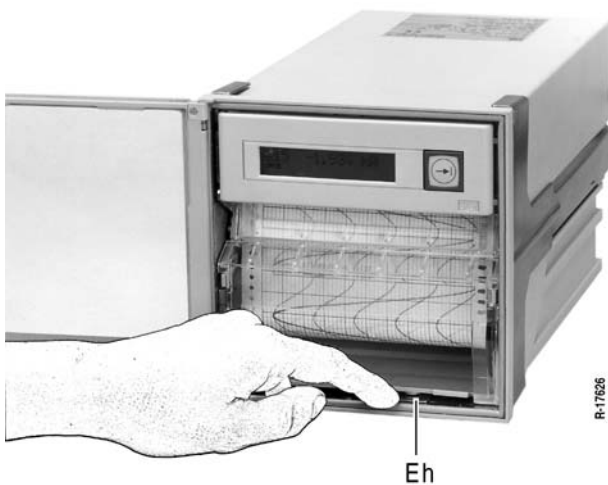
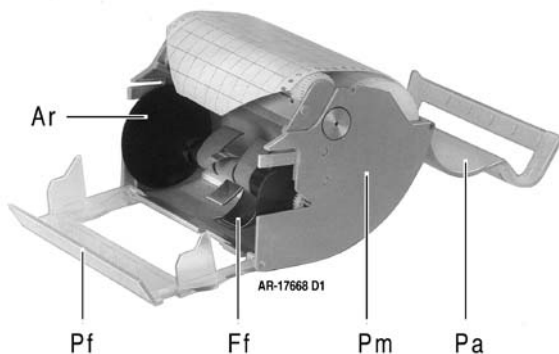
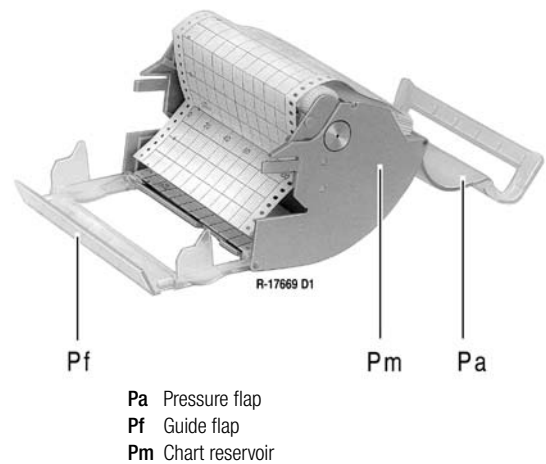

Figure 5 Unlocking recording table
Figure 6 Recording table for roll charts
Figure 7 Recording table for fanfold charts
Recording table for roll charts (see Figure 5 and Figure 6)
1. Unlock the recording table: push down the unlocking lever **Eh** (see Figure 5). The recording table swings forward. Remove the recording table.
Recording table for fanfold charts(see Figure 5, Figure 6 a. Figure 7)
For changing the recording table for roll charts to fanfold charts, remove tongue **Ff** and take-up reel **Ar** (see Figure 6).
1. Unlock the recording table: push down the unlocking lever **Eh** (see Figure 5). The recording table swings forward.